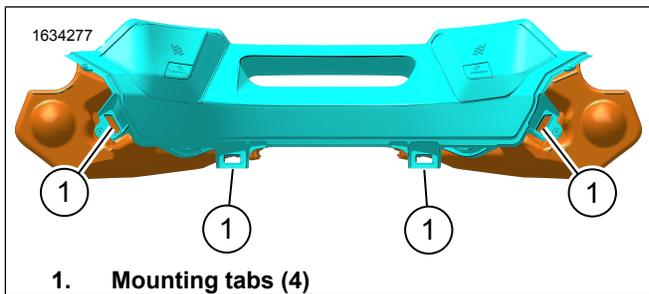

Figure 8. Audio Sub-Assembly Mounting Tabs
4. See Figure 8. Install audio sub-assembly to panel clips using the four mounting tabs (1).